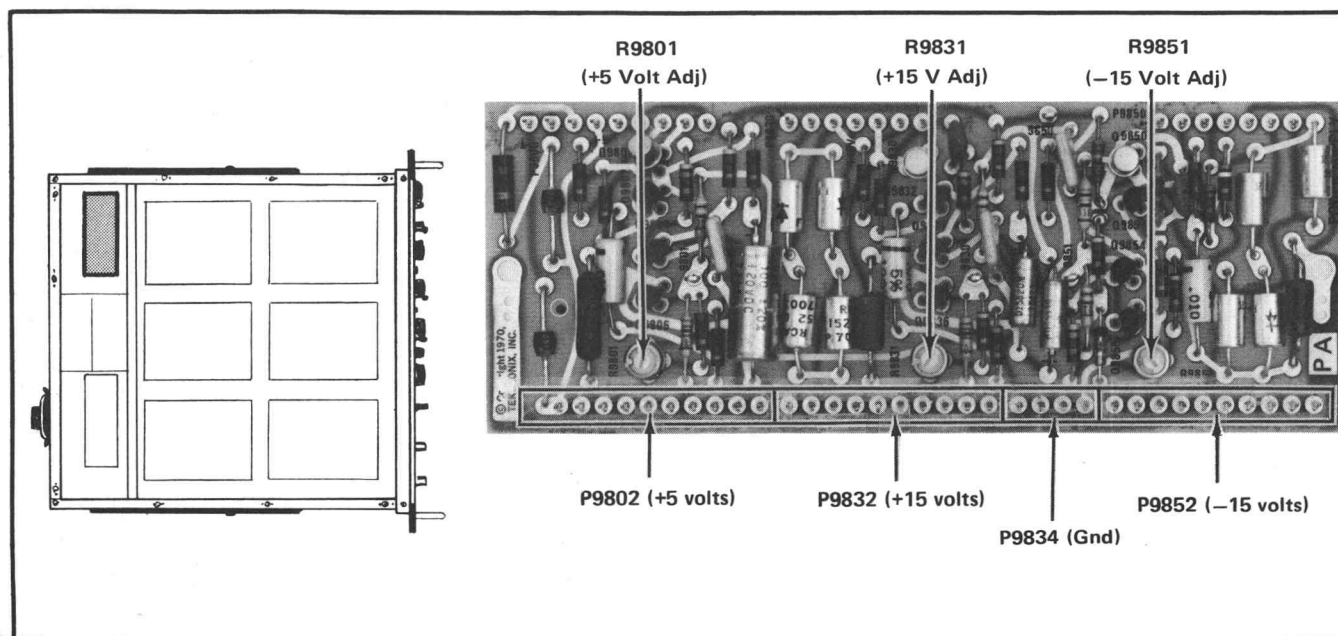

Fig. 4-5. Power Supply test point and adjustment locations.
a. Connect a precision dc voltmeter between chassis ground (pin 1 of P9834) and P9852 (–15 V), see Fig. 4-5.